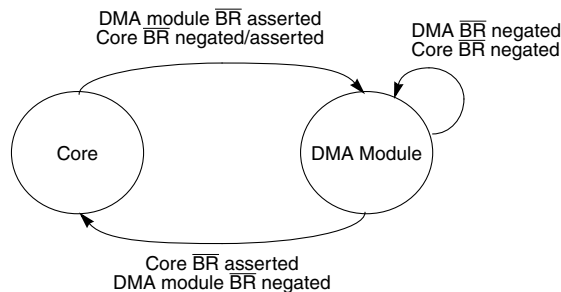

**Figure 6-12. Park on DMA Module Priority (PARK = 10)**
- Park on master DMA priority (PARK = 10)—The DMA module retains bus mastership as long as it needs it. After it negates its internal bus request, the DMA module does not have to re-arbitrate for the bus unless the core has requested the bus when it is idle. The core can be granted bus mastership only when the DMA module is not asserting its bus request. See Figure 6-12.